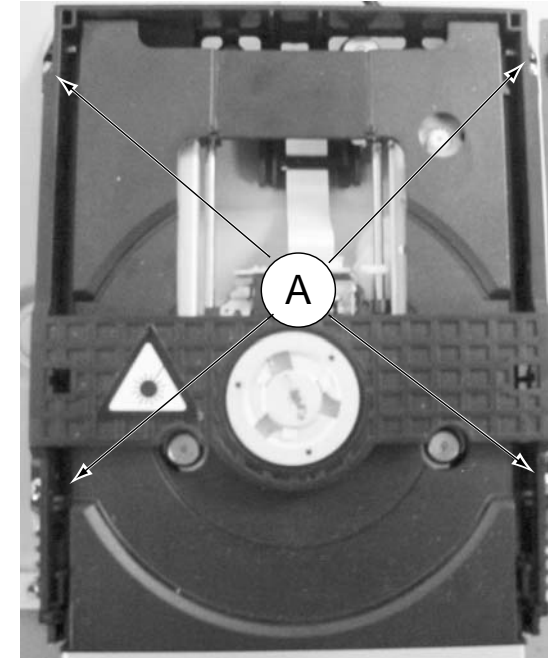

Figure 4
- 1) Loosen 4 screws "A" to remove the DVD Module as shown in figure 4.